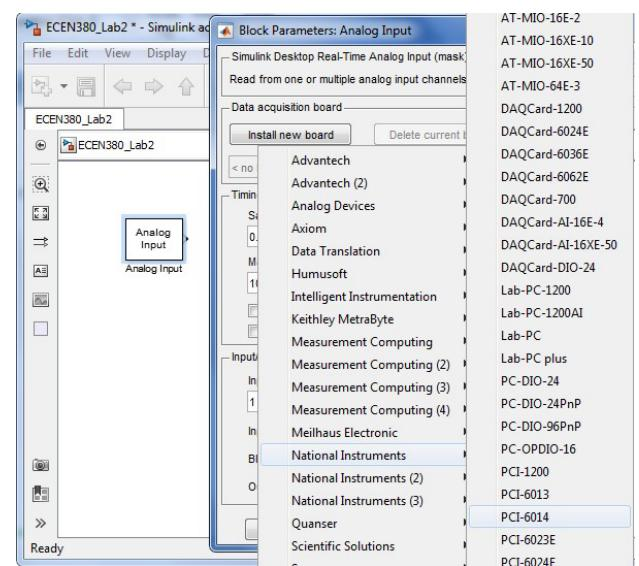

Figure 7 – Board Selection within the Analog Input Window
- Double-click on the Analog Input block to open the Block Parameters: Analog Input window (see Figure 7).